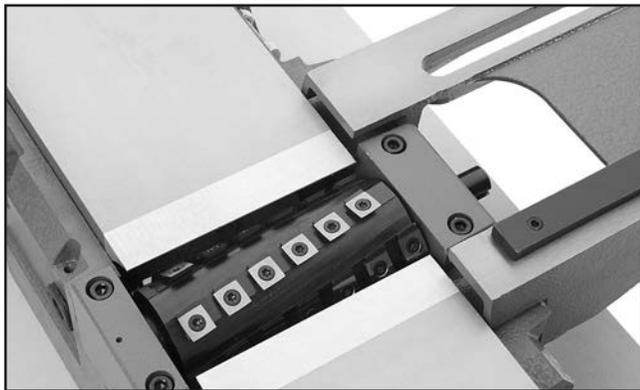

Figure 10. Example picture of spiral cutterhead installed (T27449 not shown).
20. Secure the bearing blocks with the cap screws and lock washers removed in **Step 8** (see **Figure 10**).